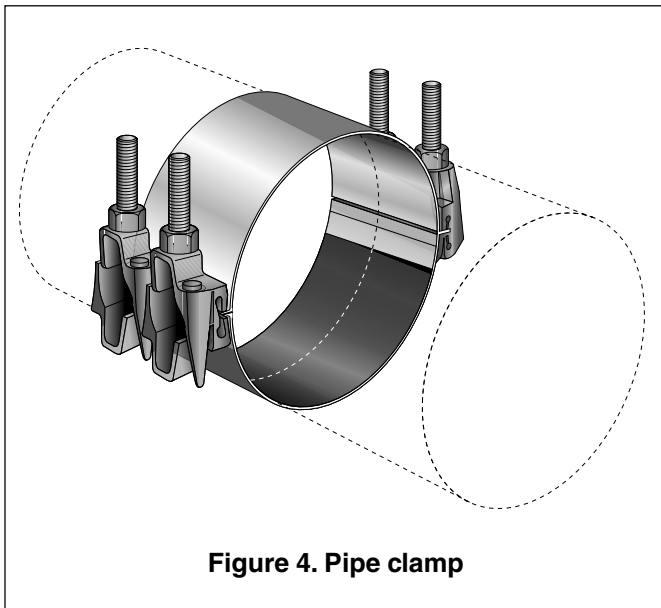

Figure 4. Pipe clamp
- The damaged section may be replaced by use of repair pipe clamps, as shown in Figure 4.